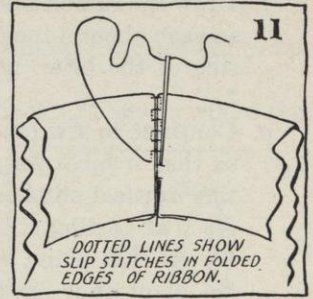

FIG. 11.
the edge of the binding (see Figure 11 A). Be sure that this stitch does not come through to the opposite side of the brim.
- (2) Directly opposite where your needle came out of the brim and just under the folded edge of the binding, take a $\frac{1}{4}$ -inch slip stitch (see Figure 11 A).
- (3) Exactly where this slip stitch comes out of the folded edge of the binding, take another $\frac{1}{4}$ -inch slip stitch in the brim (see Figure 11 B).
- (4) Continue to slipstitch, by taking a stitch first in the binding and then in the brim, until about 3 inches of binding is slipstitched in place.
- a. Slipstitch these two folded edges together (see Figure 11).